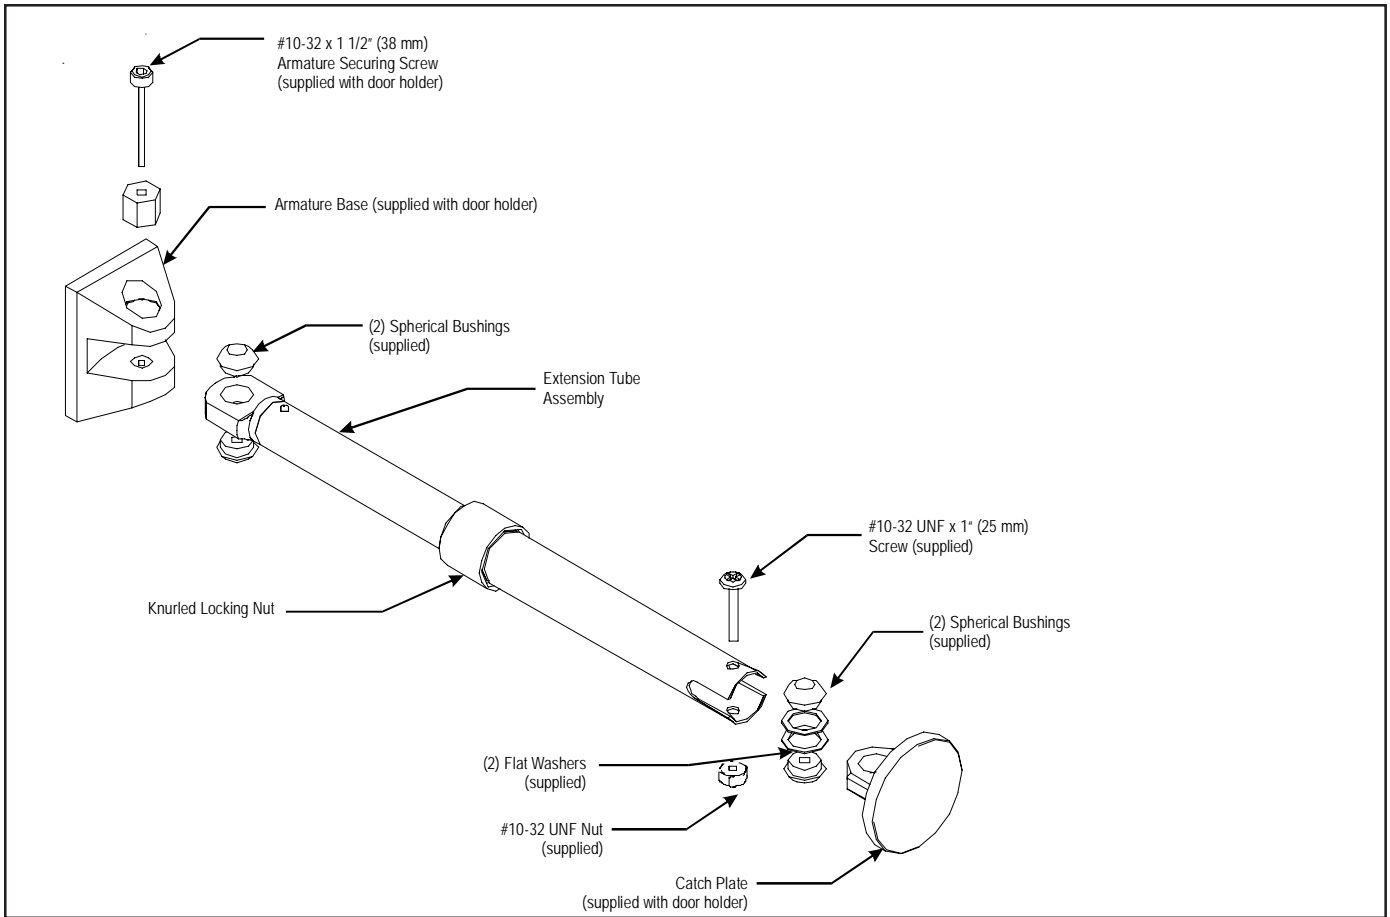
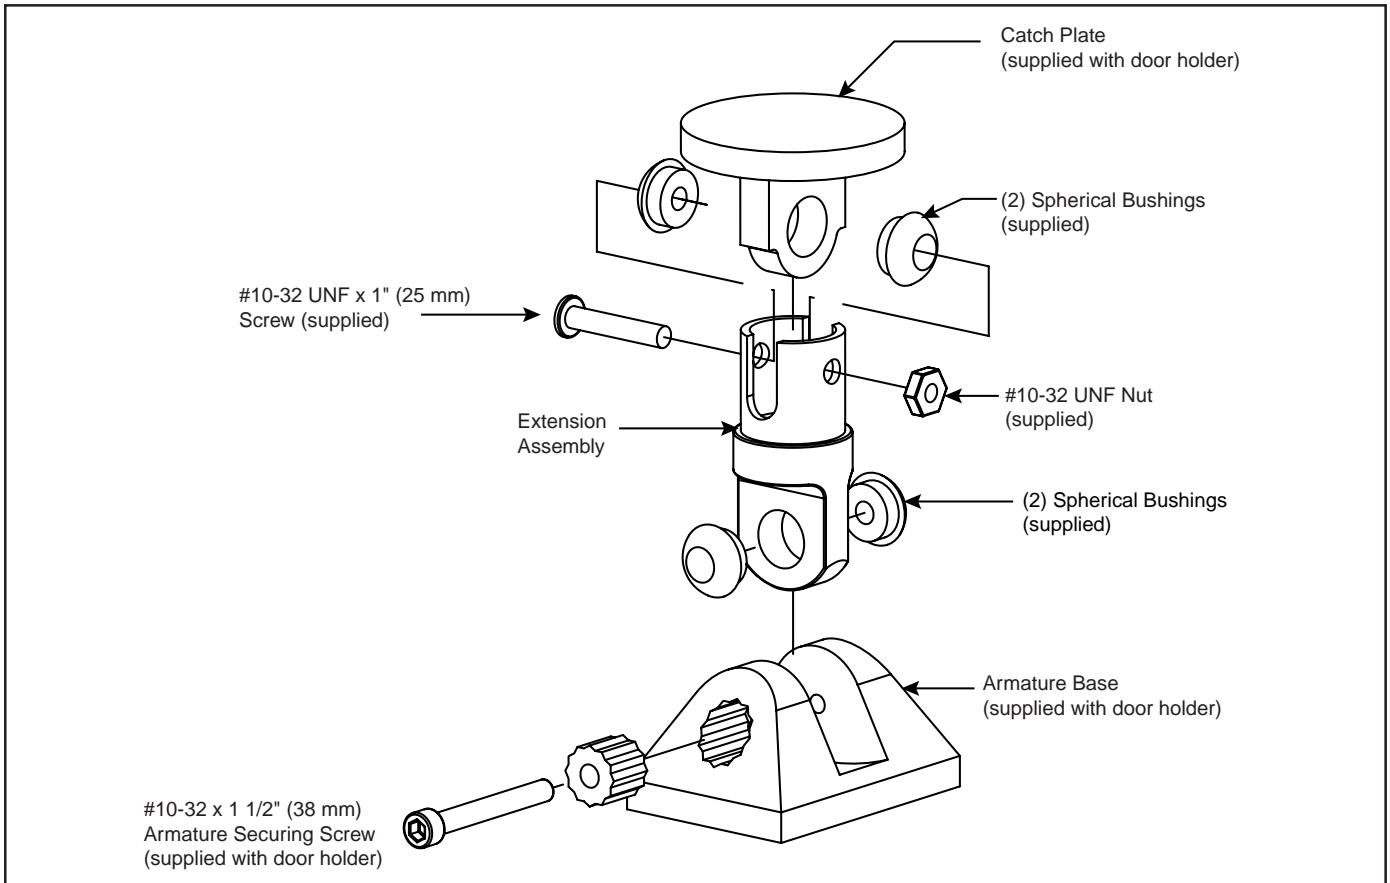

Figure 2. Extension Rod Assembly (Adjustable 1500-7 and 1500-12 Model)
Figure 3. Extension Rod Assembly (Adjustable 1500-1 and 1500-2 Model)
- b. Insert spherical bushings (removed in Step 1.a) as shown in Figure 2 or Figure 3 as applicable. If bushings are damaged, replace with bushings supplied with the door holder extension kit.
1. Using a 5/32" (4 mm) Allen Wrench (supplied), lock the extension arm into position by tightening the armature securing screw (Figure 2). **Do not overtighten.**
- d. Insert spherical bushings (supplied) and flat washers (supplied with 1500-7 and 1500-12 only) into the extension rod assembly as shown in Figure 2 or Figure 3, as applicable. Secure catch plate in extension rod using #10-32UNF x 1" (25 mm) securing screw (Figure 2).
- e. For adjustable units only, adjust the extension length by loosening the knurled locking nut, extending the rod to the desired length and retightening the knurled locking nut (Figure 2).
- g. After the desired extension length and contact alignment have been achieved, perform the following (Figure 2):